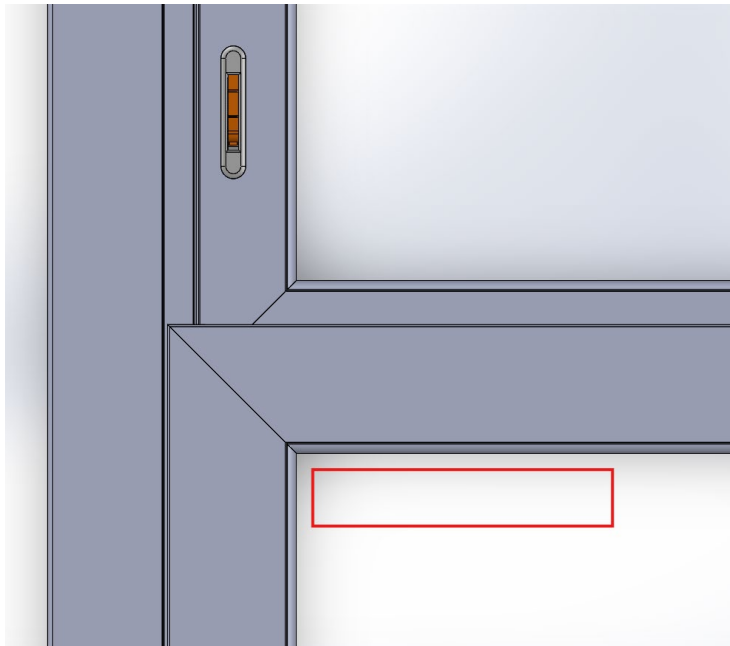

Figure 6
8. Recommended: Add decal containing WOCD operating instructions near the device as shown in Figure 6.